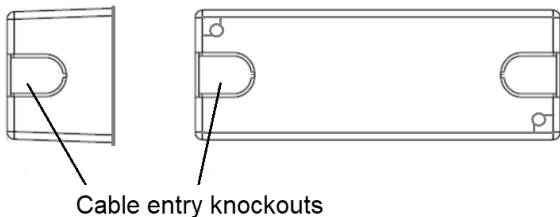

Fig. 3
- Remove a knockout from the backbox (see Fig. 3)